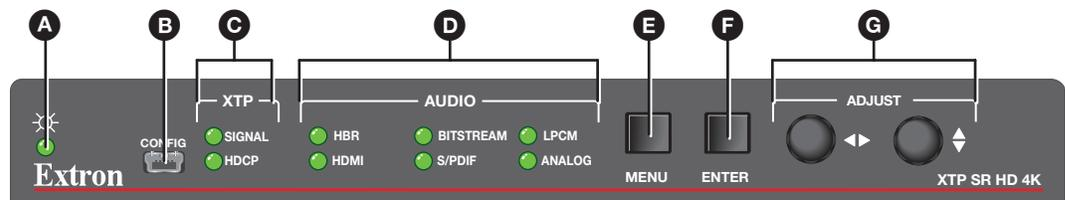

Figure 11. XTP SR HD 4K Front Panel
- E Menu button** (see figure 11 on the previous page) — Press this button to navigate the OSD menu or enable or disable front panel lockout mode (see **Front Panel Lockout Mode (Executive Mode)** on page 25).